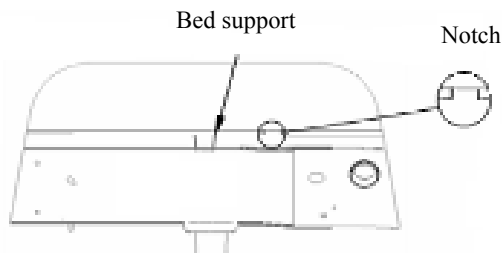
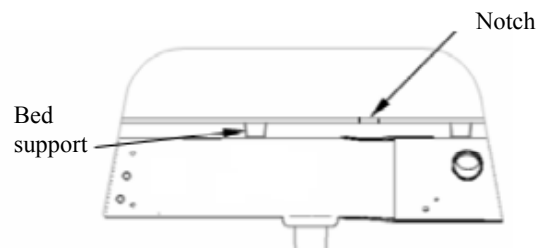

Figure 9a
Figure 9b
- 4b. **Placing Cross Members Between Bed And Frame, Method 2: Notch the Side Flange.** From the passenger's side wheel well, notch the sheet metal flange as shown in Figure 9a for 6' beds and Figure 9b for 8' beds. After notching, the cut steel surfaces should be touched up with paint to prevent rusting.